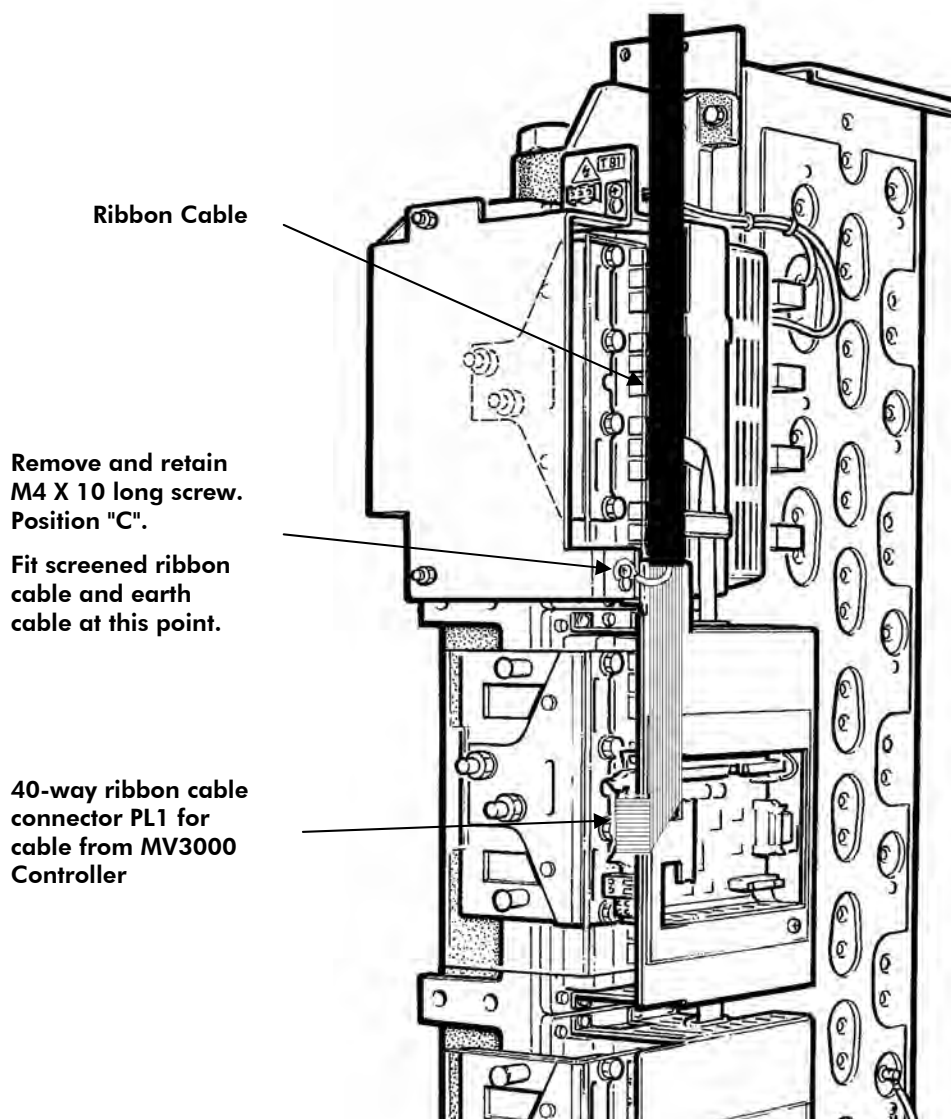

Figure 4 : Routing and fitting of Screened Ribbon Cable to MV Liquid Cooled DELTA Module
- 3.1 Remove and retain the M4 × 10 long screw that holds the SMPS mounting plate onto the vertical support. Labelled as 'C' in Figure 4.